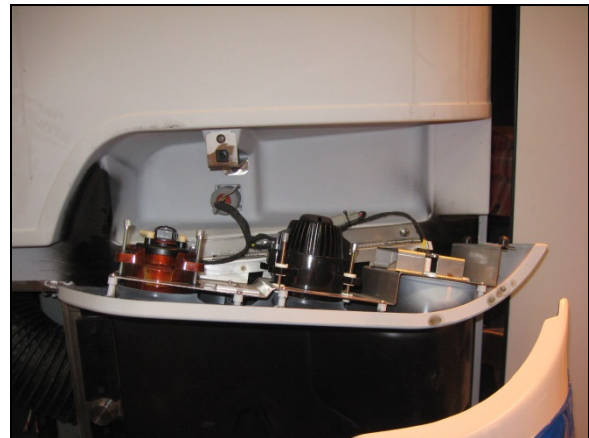

FIGURE 41: HEADLIGHT ASSEMBLY OPENED FOR BULB REPLACEMENT 06547
2. Remove the headlight screw fixing the headlight assembly, then tilt headlight assembly down (Figure 41).